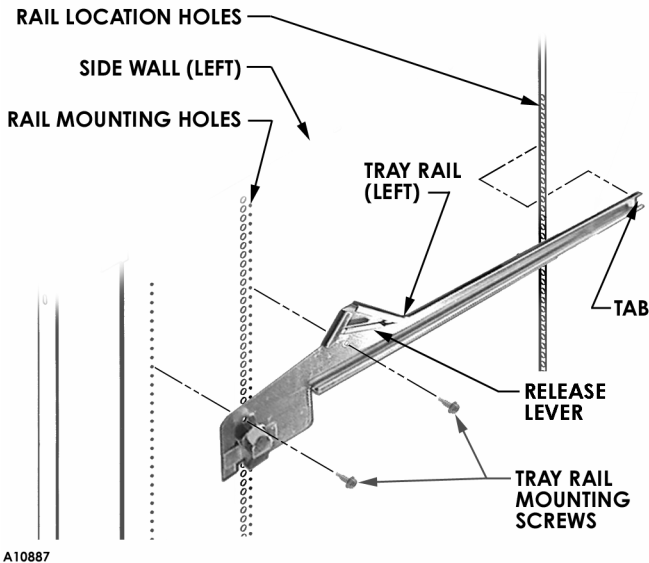

Figure 6. Tray Rails
5. Locate the release lever on the left and right tray rails. See Figure 6. Swing the release levers all the way up to unlatch.
- B. Pull each rail forward to disengage its rear tab from the hole in the rear wall. See Figure 6.